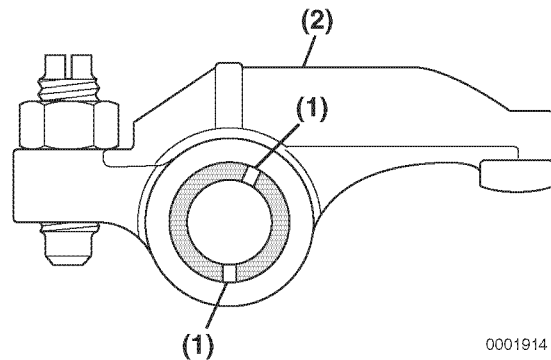

Figure 6-71
Ensure the lubrication holes (Figure 6-71, (1)) in the rocker arm shaft are oriented correctly with respect to the rocker arms (Figure 6-71, (2)).